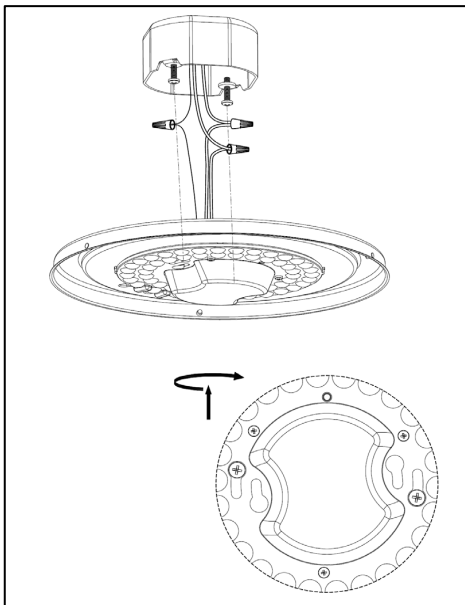

Figure 9
4. Hold housing assembly (2) in one hand and with the other hand position wires up and into junction box. (See Figure 9).
5. Rotate the housing assembly (2) into keyhole's lock position. (See Figure 9).